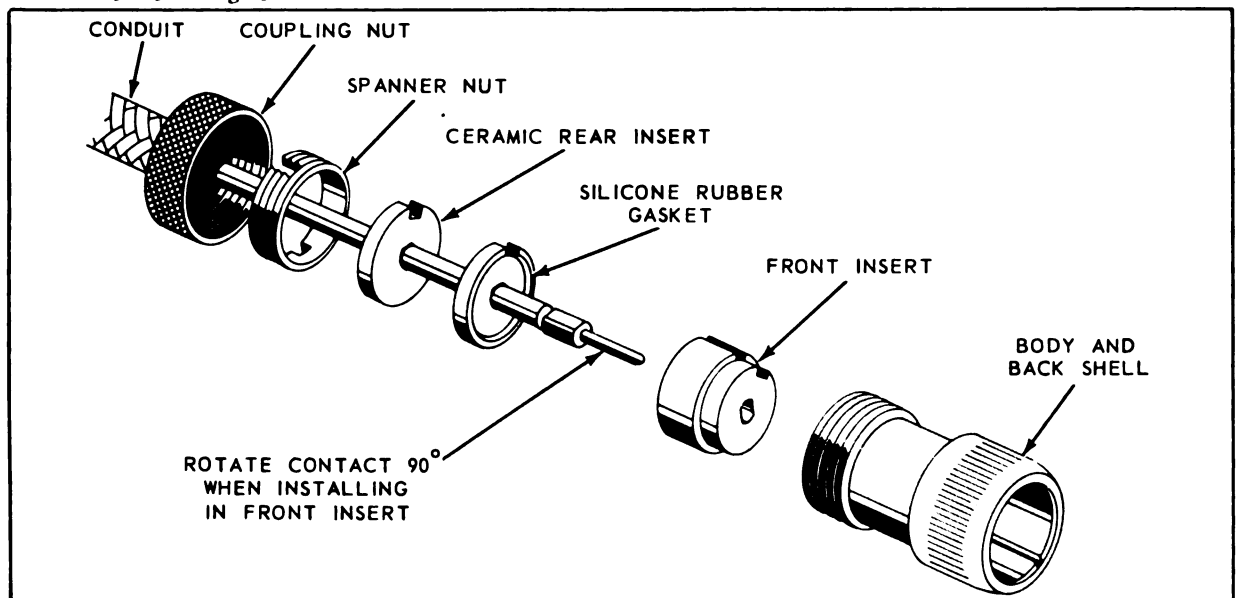

Figure 3-51. Installation of Amphenol Fireproof Connector
a. Use spanner wrench to remove spanner nut. See figure 3-51.